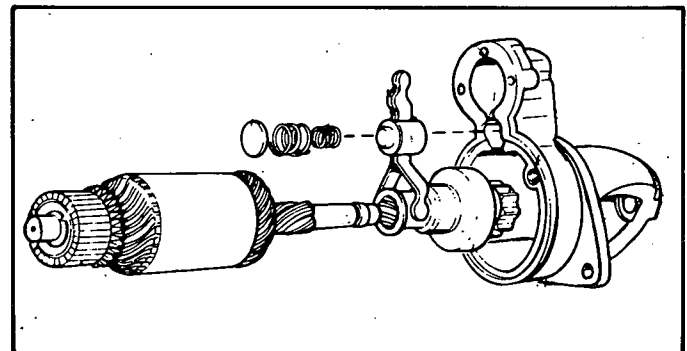

FIGURE 29. REMOVING ARMATURE
3. The armature can easily be removed from the front bracket. Be careful not to miss a small steel washer used in the end of the armature shaft. The shift lever can be removed along with the armature when it is removed. In this case, the spring holder, lever springs and retainer can be taken out before the lever. See Figure 29.